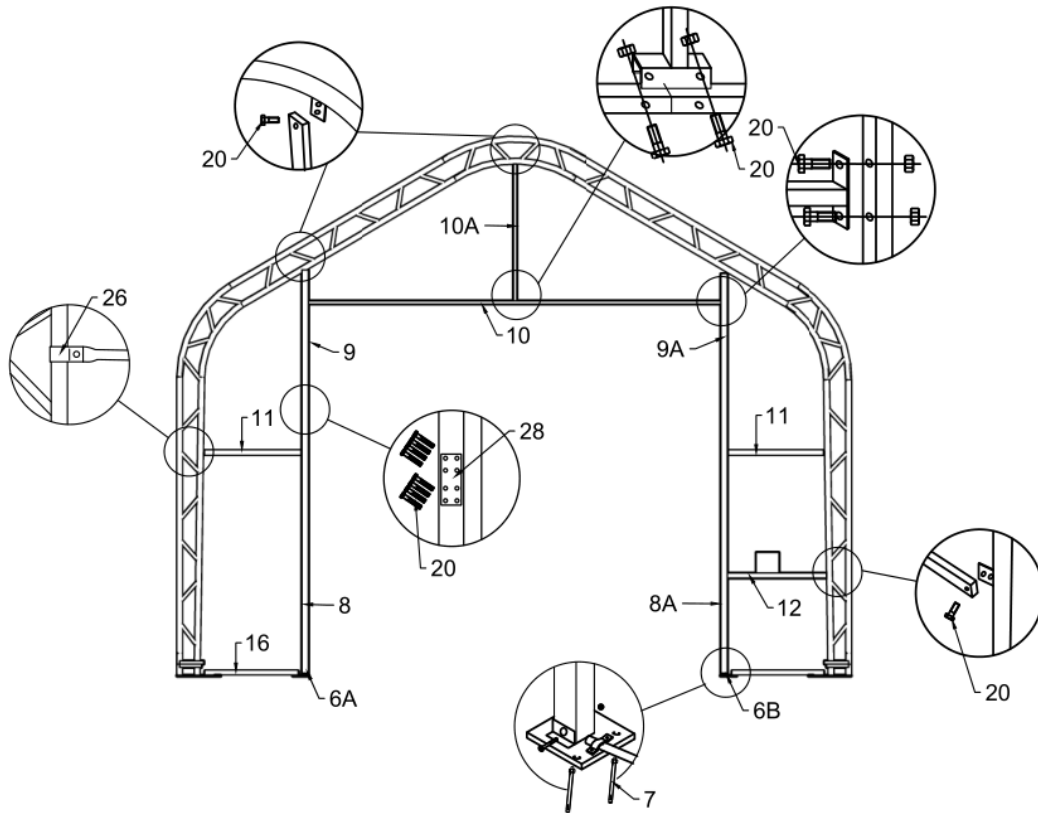

Figure 6
1. Figure 6 shows to assembly the door frame according to Figure 6.